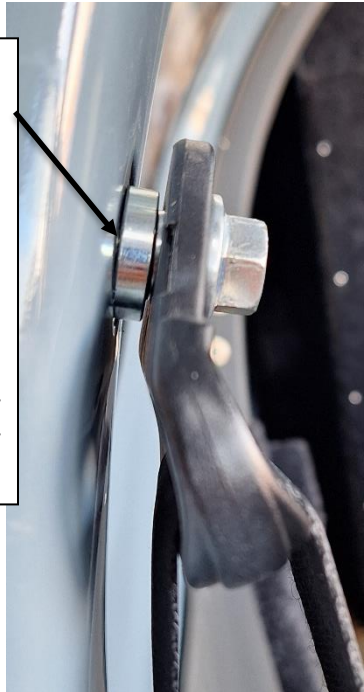
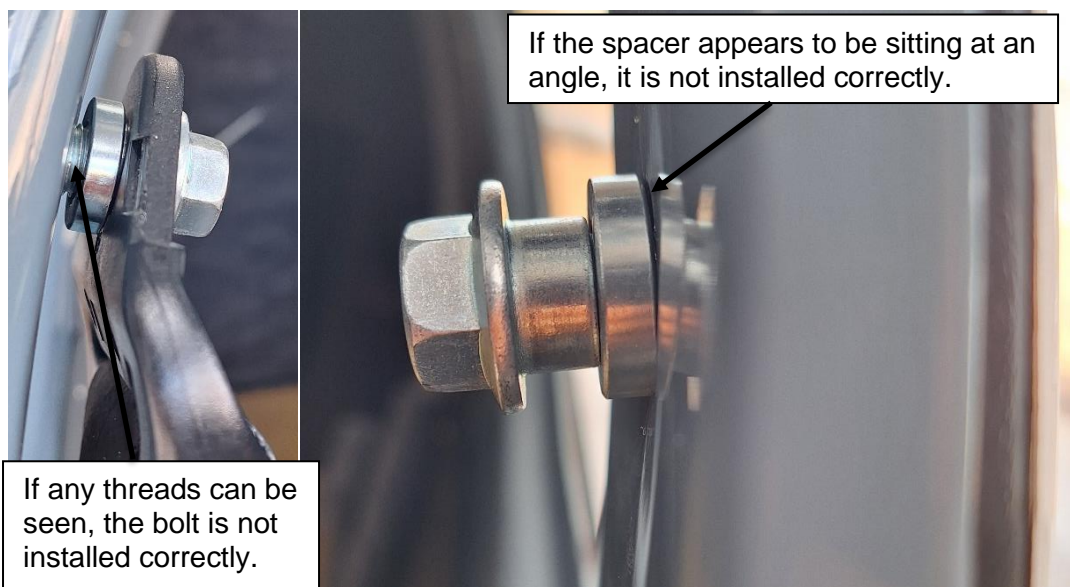

Figure 4: Correct bolt installation.
Figure 5: Incorrect bolt installation
Step 2: Ensure the bolt and spacer are installed correctly, the spacer should fit flush with the composite canopy. The shoulder of the bolt presses up against the spacer (this can be seen in Figure 4 and when tightened compresses the spacer to the canopy). The correct installation can be seen in Figure 4, the incorrect installation can be seen in Figure 5. If the issues shown in Figure 5 are present in the installation, the bolt may not be screwed in all the way. **Do not** force the bolt into the hole, there may be debris on the nut's thread which need to be removed using a thread tap. This will be explained in Sections 3.3 and 3.4. It is also possible that the dog point of the bolt may be pressing up on the composite behind the nut. The bolts supplied with the service bulletin kits have this tip removed and will not cause interference.